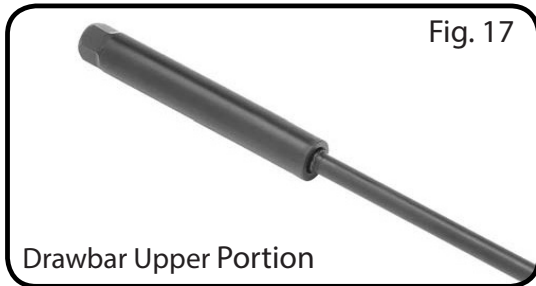

Fig. 17
9. Select the feed rate with the Variable Speed Control Handwheel (F).
10. Set the Feed Rate Lever (Fig. 17) to the feed rate required for the tooling and material required.
These mills are equipped with a NT-30 spindle taper (BM-23A) with an 12mm drawbar and a NT-40 spindle taper (BM-53VE, BM-63VE) with a M16 spindle drawbar (Fig. 17)